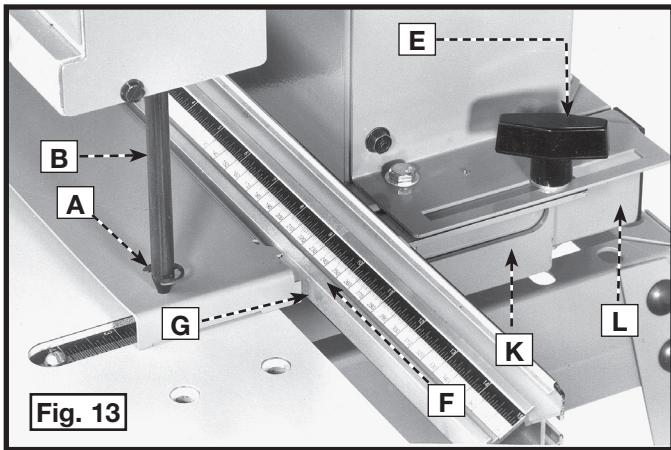

Fig. 13
4. With the index pins (B) Fig. 13 engaged in the gauge holes (A), loosen the table lock knobs, one of which is shown at (E). Move the table until the front of the fence (F) is approximately $1/32"$ (0.8 mm) away from the gauge at point (G) on each end of the gauge. Tighten the table lock knobs (E).
5. Use a small "C" clamp (not supplied) to secure the table bracket (K) Fig. 13 to the machine frame (L) at a point between the two slides to avoid movement. Clamp the table bracket on the other side of the machine to the machine frame in the same manner.